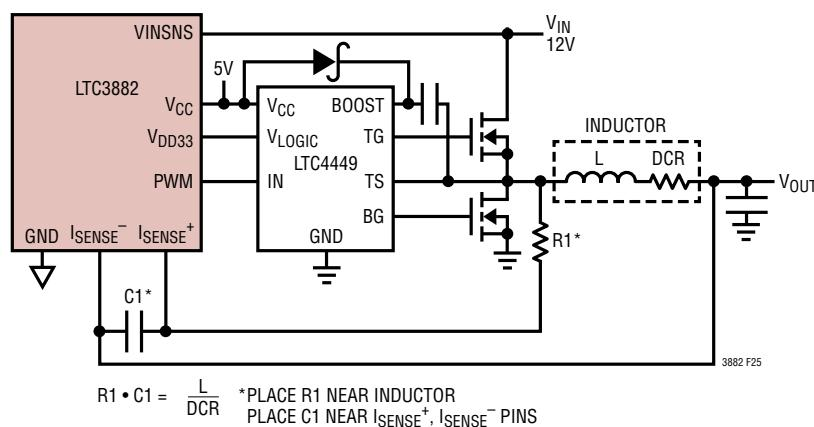

Figure 25. Inductor DCR Output Current Sense
5. Place the output current sense resistor (if used) immediately adjacent to the inductor output. PCB traces for remote voltage and current sense should be run together back to the LTC3882 in pairs with the smallest spacing possible on any given layer on which they are routed. Avoid high frequency switching signals and ideally shield with ground planes. Locate any filter component on these traces next to the LTC3882, and not at the Kelvin sense location. However, if DCR sensing is used, place the top resistor (R_1 , Figure 25) close to the switch node.
To maximize efficiency at full load the LTC3882 is designed to sense current through the inductor's DCR, as shown in Figure 25. The DCR of the inductor represents the small amount of DC winding resistance of the copper, which for most inductors suitable to LTC3882 applications, is between $0.3\text{m}\Omega$ and $1\text{m}\Omega$. If the filter RC time constant is chosen to be exactly equal to the L/DCR time constant of the inductor, the voltage drop across the external capacitor is equal to the voltage drop across the inductor DCR. Check the manufacturer's data sheet for specifications regarding the inductor DCR in order to properly dimension